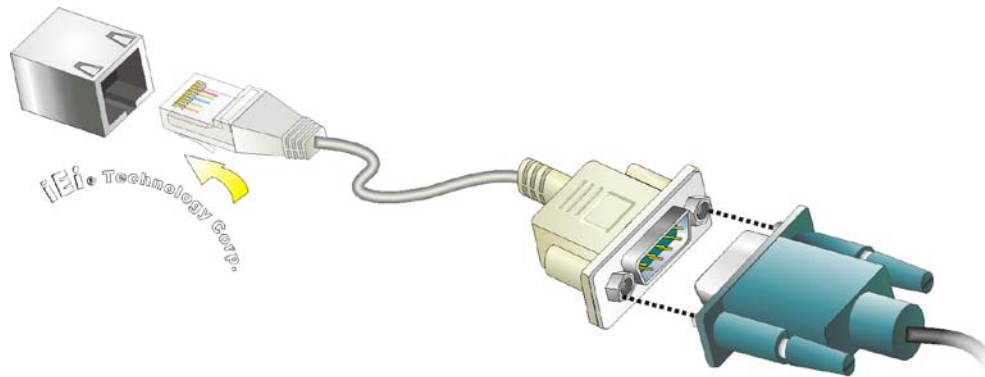

Figure 4-19: RJ-11 Serial Port Connector
Step 2: Connect the RJ-11 to DB-9 COM port cable to the panel PC. Insert the RJ-11 connector end of cable into the RJ-11 serial port. See **Figure 4-19**.
Step 3: Connect the serial device. Connect a serial device to the DB-9 connector end of the cable. See **Figure 4-19**.